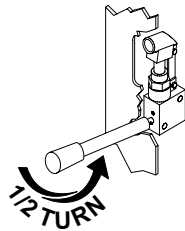
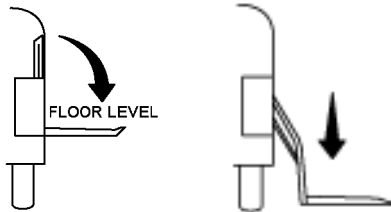

FIG. 34 OPEN PRESSURE
FIG. 35 UNFOLDING AND LOWERING PLATFORM
1. Unfold and lower Lift PLATFORM as follows. Turn pressure release valve on pump by using MANUAL BACKUP HANDLE to turn valve fitting 1/2 turn counter-clockwise (**FIG. 34**). Observe PLATFORM unfolding to horizontal position at vehicle floor level, and then lowering to ground level (**FIG. 35**).